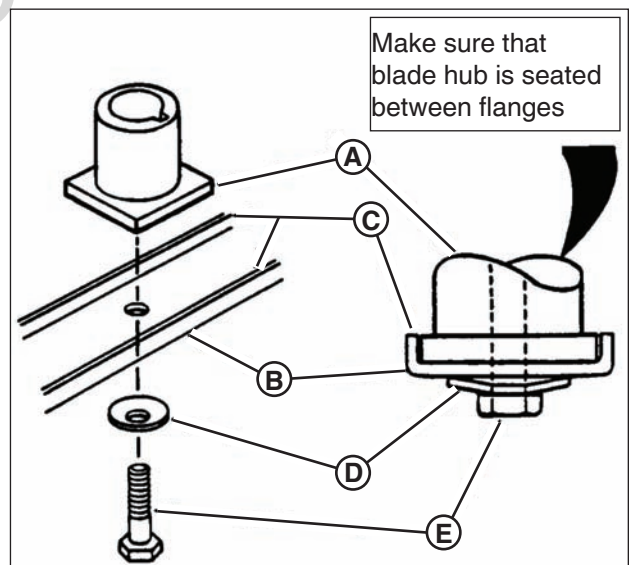

Figure 20: Removing the mower blade
3. Remove the blade (**B, Figure 20**).
- Reinstall blade (**B, Figure 20**). Note the correct assembly order: